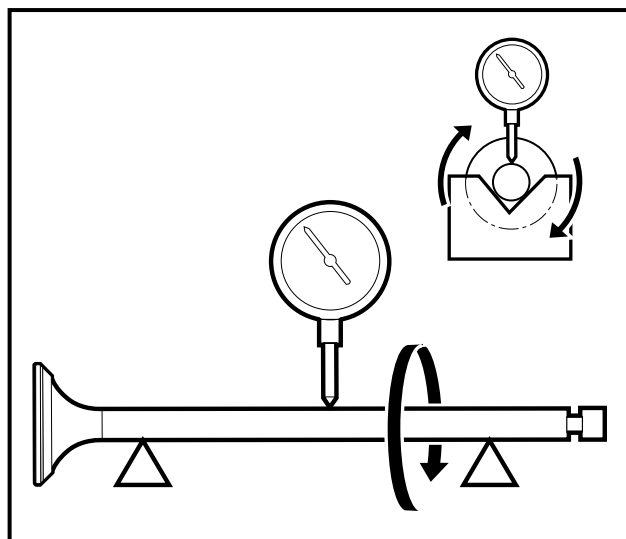

Figure 2-25 Measure Valve Stem Bend
1. Support the valve in V-blocks at each end of the stem (**Figure 2-25, Page 2-14**).